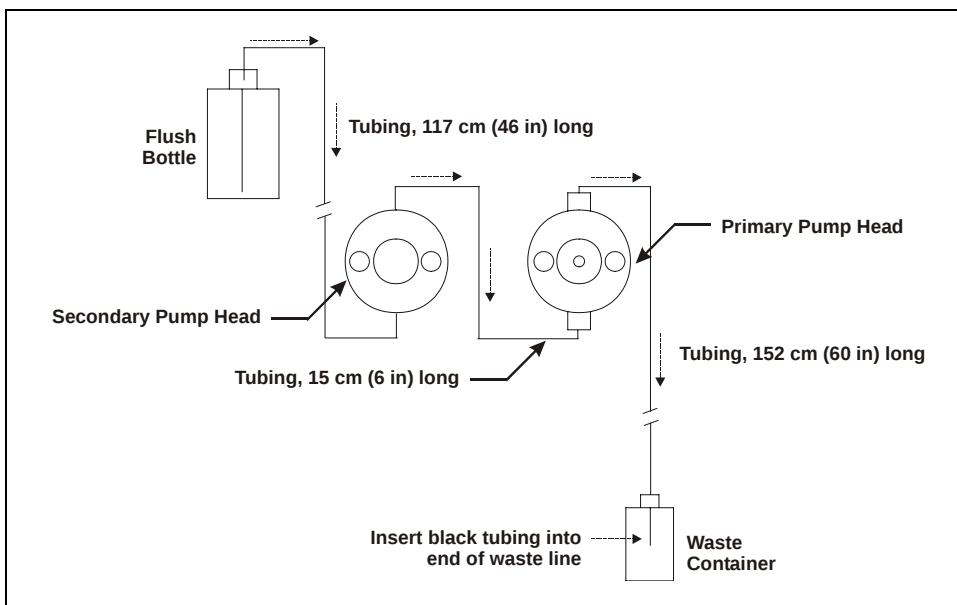

Figure B-114. Piston Seal Wash Flow Schematic
4. Install the tubing as follows (see Figure B-113 and Figure B-114):